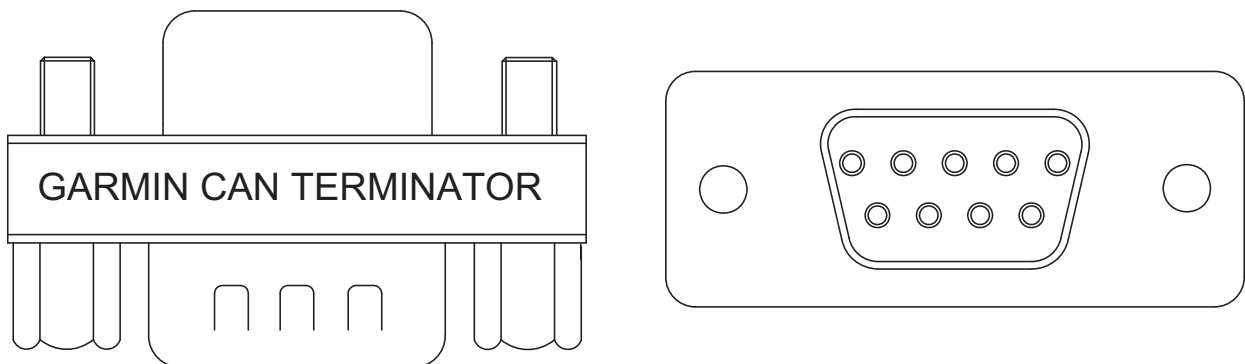

Figure 2-6 CAN Bus Termination (011-02887-00) for the G5, GAD 29, GMU 11, and GPS 20A
- The GAD 29, GMU 11, GPS 20A, and G5 installation kits each provide a 9-pin termination adapter that provides CAN bus termination when attached between the LRU and the cable assembly. The termination adapter contains a 120 Ω resistor that is connected between pins 1 and 2 (Figure 2-6).